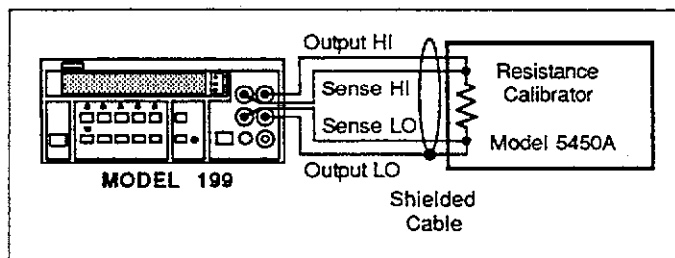

Figure 6-3. Four-Wire Resistance Calibration Configuration (300Ω-30kΩ Ranges)
2. Connect the resistance calibrator to the instrument as shown in Figure 6-3.